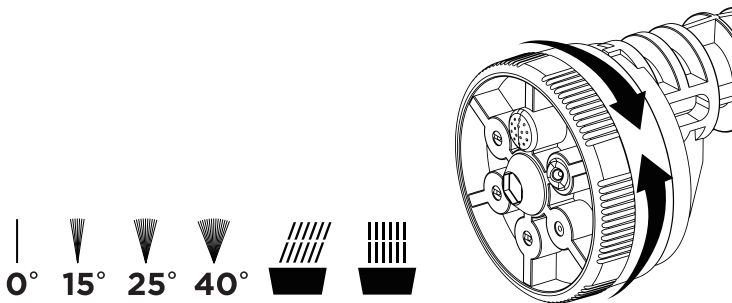

Fig. 8
TO CHANGE THE SPRAY PATTERN (FIG. 8)
3. Twist the nozzle collar to align the symbol of the desired spray pattern with the mark on the nozzle (Fig. 8).